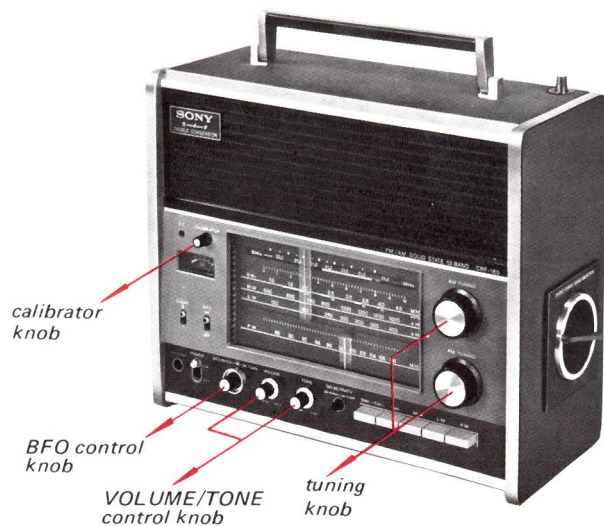

Fig. 2-1
1. Pull off the six knobs shown in Fig. 2-1.